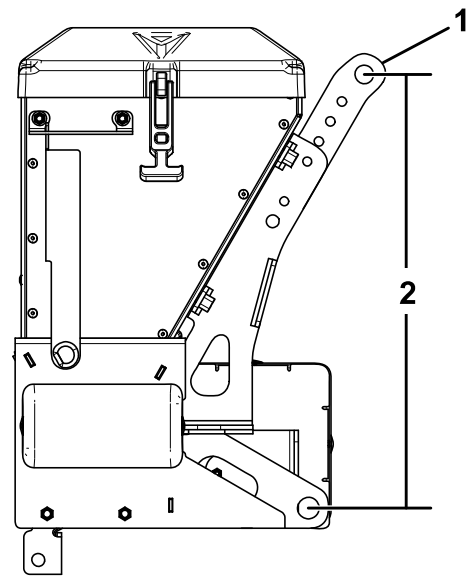

Figure 12
2. Position the mast brackets on the spreader so that the distance between the centers of the holes shown in Figure 12 is close to the measurement found in step 1.